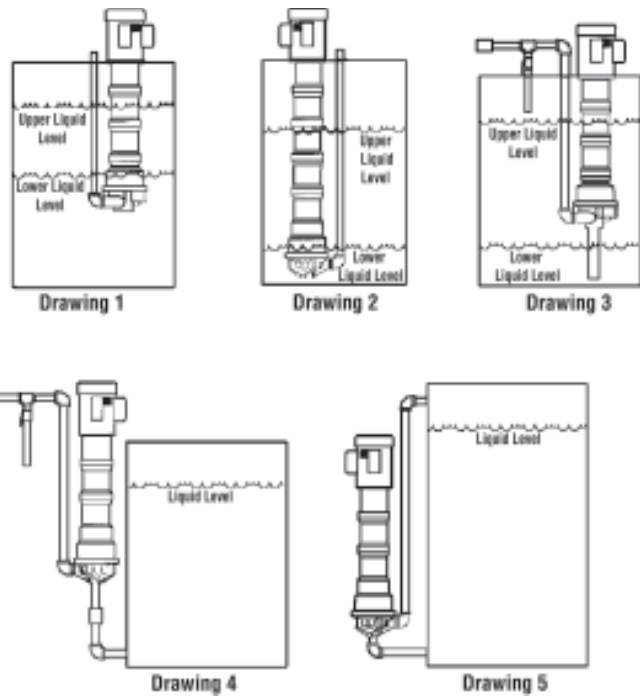

Figure 1
The VKC Series is a versatile pump designed to be operated in a variety of mounting configurations. The pump can be mounted either inside or outside of a tank or sump. See Figure 1.
- If a check valve is installed in the discharge piping, an air bleed must be installed in the discharge line to prevent air lock. This allows air trapped in the pump internals to be removed on initial start-up. See drawings 3 and 4 in Figure 1.